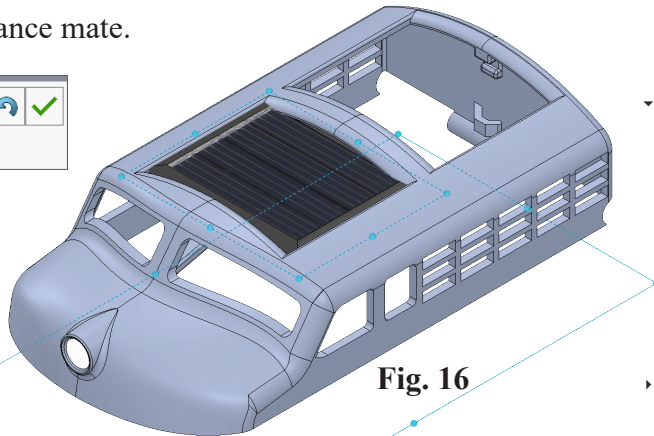

Fig. 16
Step 5. Click **Distance** in Mate pop-up, Fig. 15. Set distance **31.7** and press ENTER. The Panel should be positioned over Hatch, Fig. 16. If positioned in opposite direction, click **Flip Dimension** in the Mate pop-up. Click Add/Finish Mate to add Distance mate.